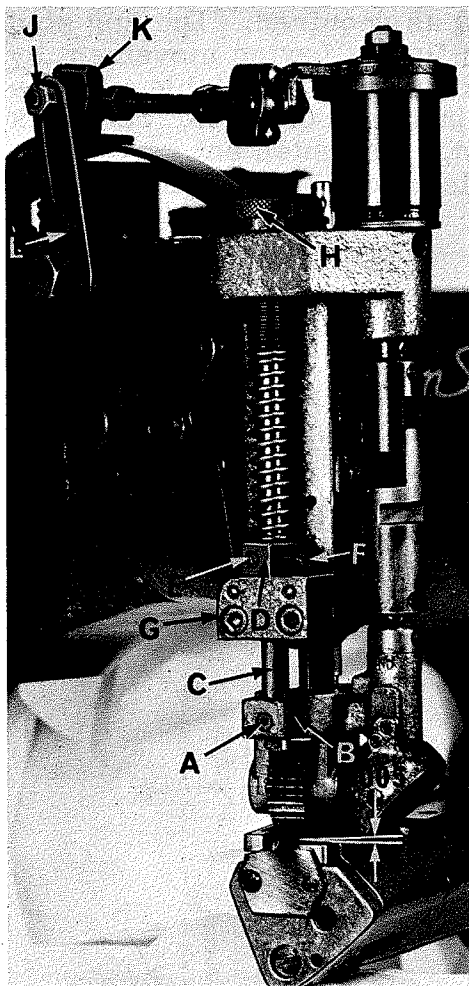

Fig. 9
When upper feed roller mechanism has been removed or replaced, .005 inch clearance should be maintained between roller and throat plate to alleviate the possibility of the teeth of the roller, chipping at the throat plate during absence of sewing material. Loosen set screw (A, Fig. 9) in feed roller frame (B) permitting feed roller mechanism to be raised on the roller presser bar (C). With presser bar connection (D) properly positioned and secured on roller presser bar with spot screw (E), set screw (F) and resting on head casting (G), insert .005 inch shim between roller and throat plate. Depress feed roller mechanism firmly on shim, retighten set screw (A), remove shim.